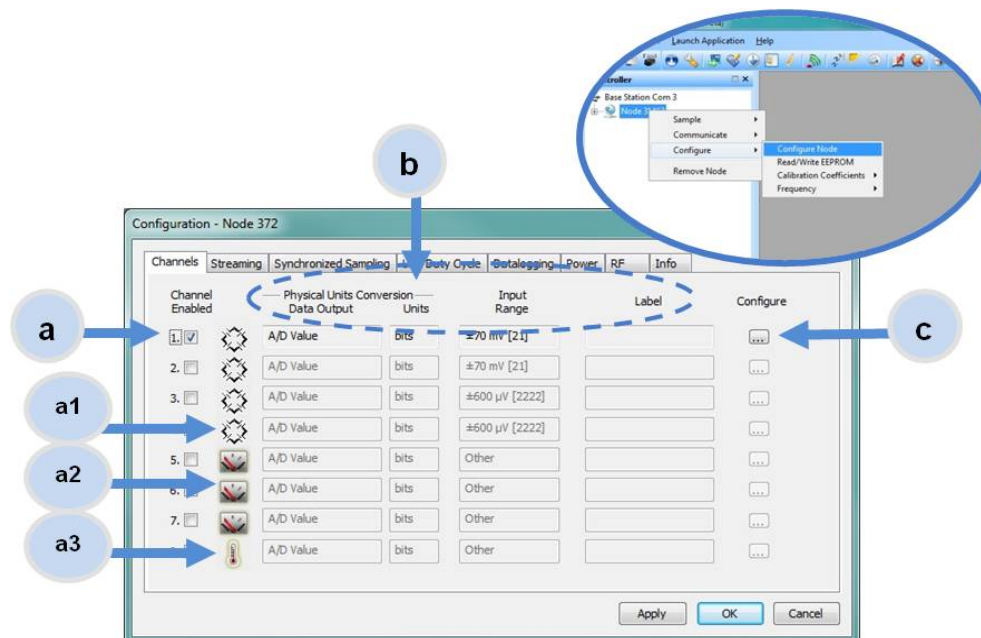

Figure 8 - Node Channels Menu
2. To enter the channel configuration menu select the channel Configure button as shown in Figure 8 - Node Channels Menu. The channel must be enabled first by selecting its adjacent check box. The channel configuration menu options change depending on the sensor type selected. Below is a description of possible settings.